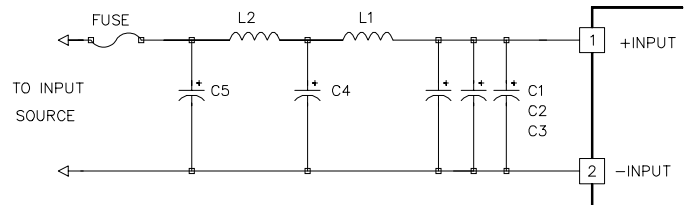

Figure 2. Input Filter and Fuse
- (1) All parameters measured at Tc=25°C, Vin=12VDC, and maximum rated load unless otherwise noted. A 15 milliohm source impedance must be connected to the input pins for proper operation (See the applications section of this spec drawing). The 12S5.7000CD may be damaged without a low impedance source. The Sense pins are connected to their respective output pins. No connection to the Trimpin. Refer to CALEX Application Notes for definition of terms, measurement circuits, and other information.
- (2) See CALEX Application Notes to determine the correct fuse. A fuse must be used for reverse voltage protection of the input.
- (3) The case is connected to the -Input.
- (4) The remote sense pins must be connected to their respective output pins for proper output voltage and regulation. The drop on the remote sense pins must be less than 0.2 Volts for both sense lines combined.
- (5) Transient response is defined as the time required for the output voltage to settle from a 50% to 75% step change, of FL, to a 2% error band (rise time of step = 2 µSec).
- (6) Dynamic response is defined as the peak voltage overshoot during a transient as defined in note 5 above.
- (7) Noise is measured per CALEX Application Notes. Peak to Peak measurement bandwidth is 0 - 20 MHz. RMS measurement bandwidth is 0.01 - 1 MHz. Output noise is measured with a 10µF tantalum capacitor and a 0.01µF ceramic capacitor located 1 inch away from the converter. Input Reflected Ripple is measured with the external filter C1, C2, C3, and L1 connected to the input pins as shown in figure 2.
- (8) The ON/OFF pin is Open Collector TTL, CMOS, and relay compatible. The input to this pin is referenced to the -Input (pin 2).
- (9) The functional temperature range is intended to give an additional data point for use in evaluating this DC/DC converter. At the low functional temperature the converter will functional with no side effects, however sustained operation at the high functional temperature may reduce the expected operational life. The data sheet specifications are not guaranteed over the functional temperature range.
- (10) The case thermal impedance with the installed heat sink is specified as the case temperature rise over ambient per package watt dissipated.
- (11) The Transient Input Voltage can be applied after the unit is in the OFF mode by pulling the ON/OFF pin low. It is limited to an intermittent use basis with a 10% maximum duty cycle.
- (12) Specifications subject to change without notice.
The 12S5.7000CD requires a low impedance source to supply power to the input pins. The impedance must be less than 15 milliohms from DC to about 250 kHz. The unit may be damaged without the low impedance source. This can be achieved by an external input filter circuit (See figure 2). The components must be mounted near the 12S5.7000CD converter input pins, within 2 to 3 inches is satisfactory.